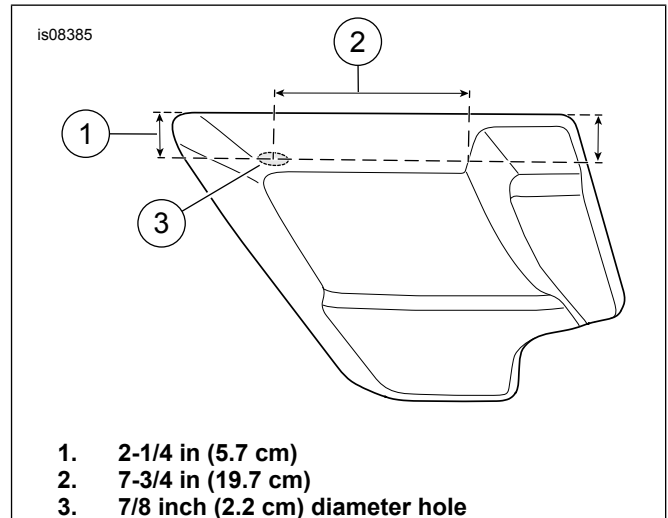

Figure 1. Left Side Cover
- a. Use the location noted in Figure 1 or Figure 2.